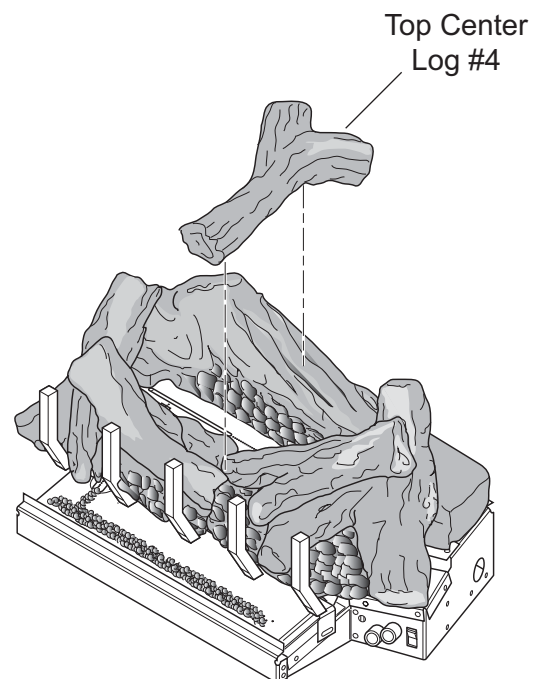

Figure 29 - Installing Top Center Log (#4)
4. Rest end of top center log (#4) on rear log. Place front end of top center log where right and left cluster logs meet. See *Figure 29*.